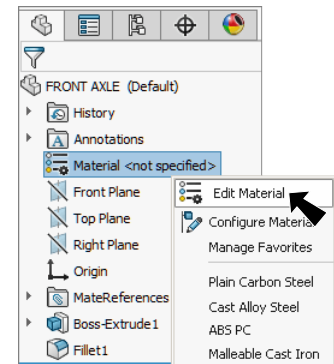

Fig. 10
- Step 1. Right click Material  in the Feature Manager and click Edit Material, Fig. 10.